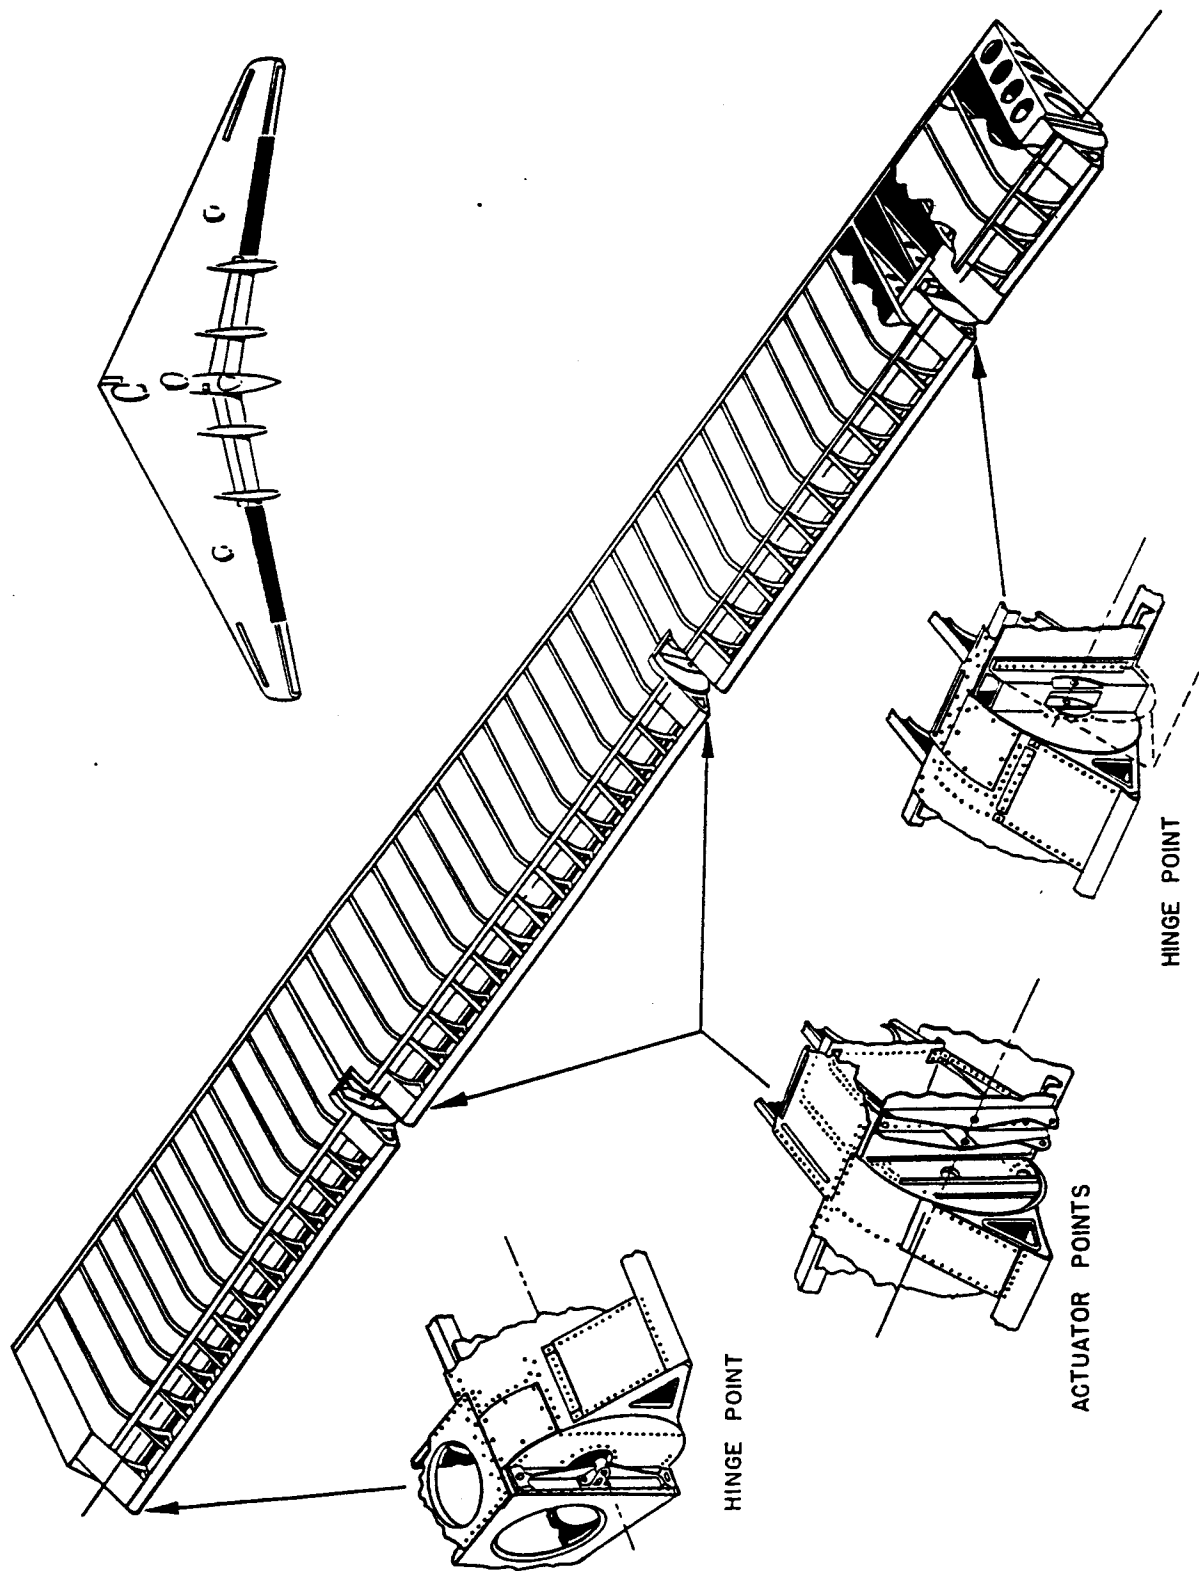

Figure 4. Elevon
c. ELEVONS. (See figure 4.)- The elevons are fabric covered surfaces, which are installed on the trailing edge of the wing. They extend from the landing flaps to the rudder-trim flap combinations at the wing tips.
(1) REMOVAL.- Each elevon weighs approximately 290 pounds. It is recommended that a hoist be employed to support the elevons for removal.